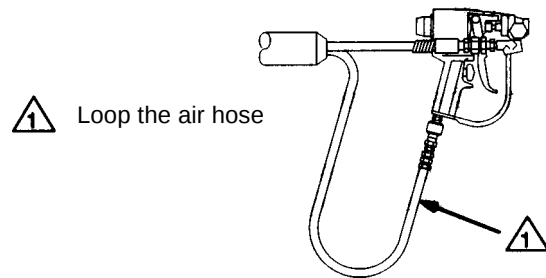

Figure 5 _____
- c. Connect the air hoses. Do not alter the air hose length at this connection. Loop it down from the gun as shown in Figure 5.
- a. Wrap electrical tape securely around the fluid and air hose connectors only, so the sharp metal edges of the connectors cannot damage the plastic connectors of the heat tapes. See Figure 5.